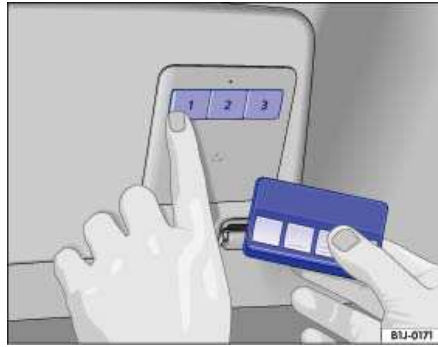

Fig. 37 To program: Simultaneously press the buttons for the HomeLink Universal Transmitter and the remote control.
3. Using both hands, simultaneously press and hold both the HomeLink button you want to program (1, 2, or 3) and the hand-held transmitter button, as shown ⇒ fig. 37. **Do not release the buttons until the HomeLink indicator light flashes slowly and then rapidly.** When the indicator light flashes rapidly, release both buttons. The rapid flashing indicates successful programming.